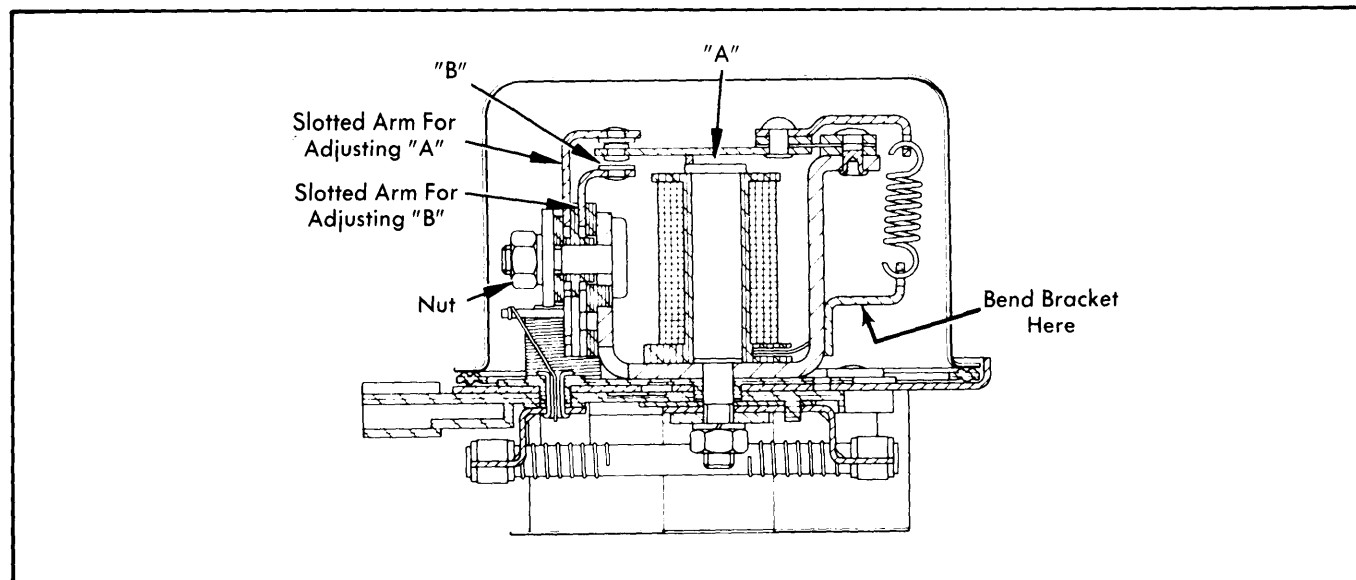

Fig. 3 Adjusting Voltage Regulator
1) Disconnect positive battery cable then remove dust cover on voltage regulator. Inspect contact points for pitting and burn marks, then clean minor pitting and burn marks. **NOTE** — Extreme damage to points requires regulator replacement. Use a feeler gauge to check measurements at point "A" and "B" as shown in Fig. 3.
2) If clearances are not within specifications, remove the regulator from vehicle. Loosen nut and adjust gaps by moving the slotted arms indicated in Fig. 3. until clearances are within specifications. Tighten nut and recheck clearances.